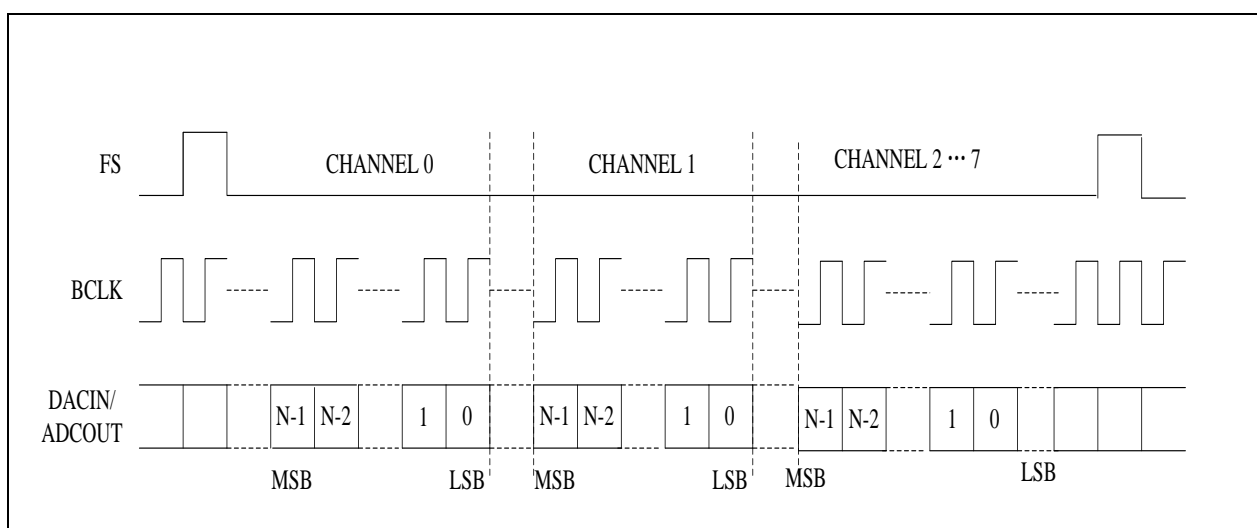

Figure 35 PCM Time Slot Audio Data
Normally, the DAC and ADC data are clocked immediately after the Frame Sync (FS); however, in PCM Time Slot Mode, the audio data can be delayed by setting LEFT TIME SLOT TSLOT L0 REG0XF[9:0] and RIGHT TIME SLOT TSLOT R0 REG0X10[9:0] for the left and right channels, respectively. I2S PCM CTRL2 PCM TS EN0 REG0XE[10] needs to be set to 1. These delays can be seen before the MSB in Figure 35.